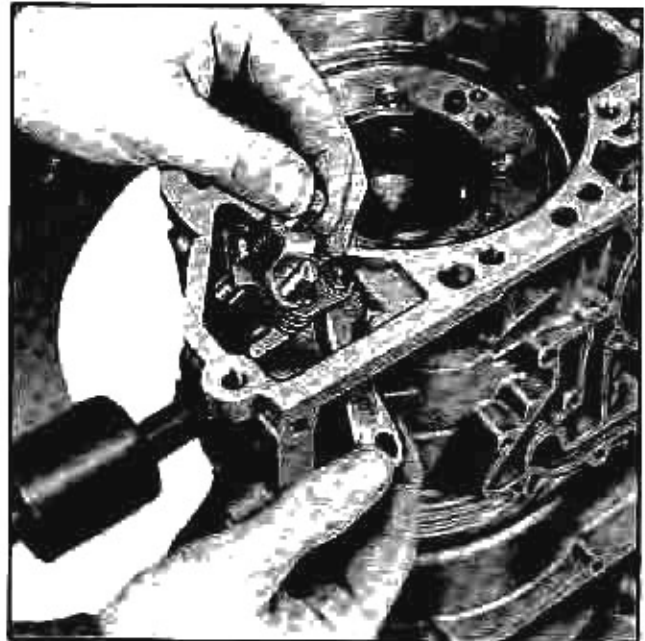

Fig. 65 Removing Parking Linkage
10. Remove parking linkage assembly from case by lifting parking bracket shaft and entire assembly out of the hole in the rear of the case (Fig. 65).